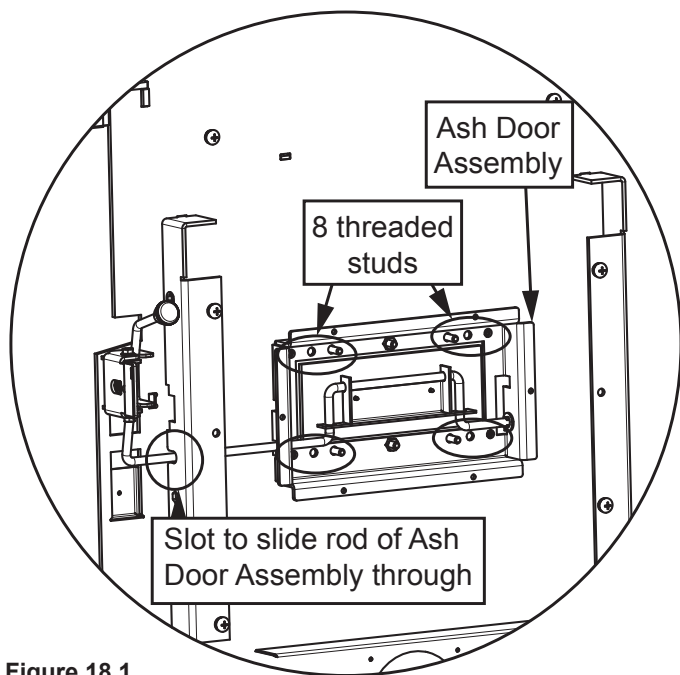

Figure 18.1
9. Install ARS latch by sliding latch assembly over 2 threaded studs protruding from the bottom on the left hand side of the appliance. Secure by using two nuts use 7/16 socket wrench (**Figure 18.1 on page 18**).
- Install ARS latch by sliding latch assembly over 2 threaded studs protruding from the bottom on the left hand side of the appliance. Secure by using two nuts use 7/16 socket wrench (**Figure 18.1 on page 18**).